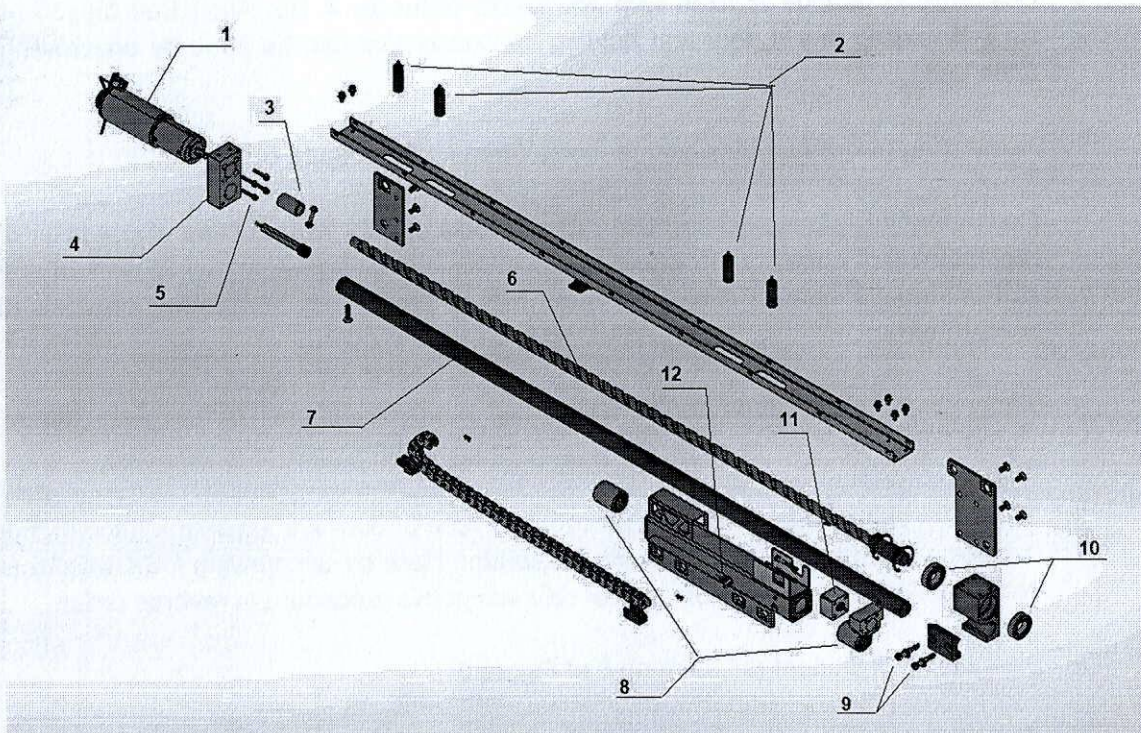

Figure 6
- Dismantling of Motor: (item no 1 of Figure 6)
- Unscrew Allen bolt (item -5 on Figure 6) form motor console (item -4 on Figure 6) to dismantle motor.
- Dismantling of Ball Screw: (item no 6 of Figure 6)
- Dismantling of Guide rod: (item no 7 of Figure 6)
- Dismantling of Leaf holding bracket and Linear Bearing. (item no 12 of Figure 6)